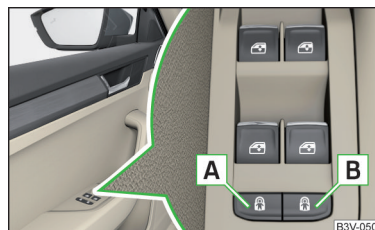

Fig. 56
- › To **switch on/off** the child safety lock in the **left** rear door, press the button **A** in the driver's door » Fig. 56.